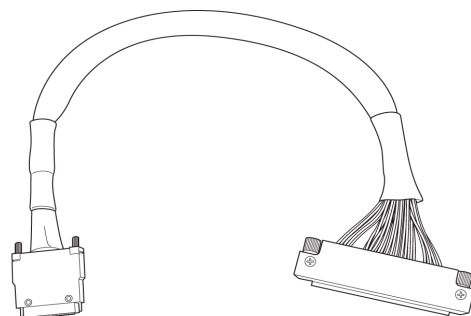

Figure 3.10: MidBus Probe Cable, Attachment Pad, and Header
- ❑ 1 Clock Cable (see Figure 3.10 on page 16).